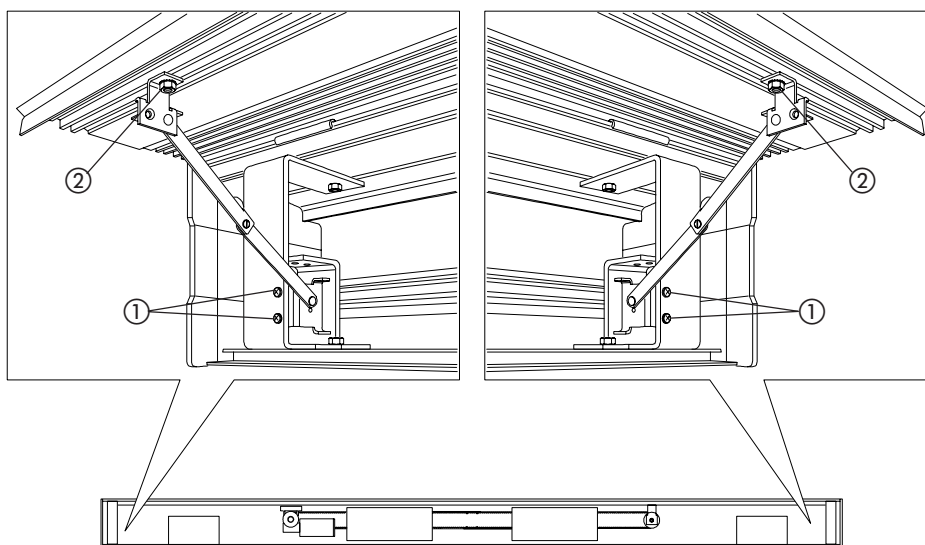

fig. 81
Secure the two housing support levers to the outermost housing support brackets, using the 4 supplied screws (fig. 81 ref. ①). Position the two support levers on the two outermost M5 stay screws fitted previously (fig. 76 refs. A and D) and secure them with the supplied nuts (fig. 81 ref. ②).